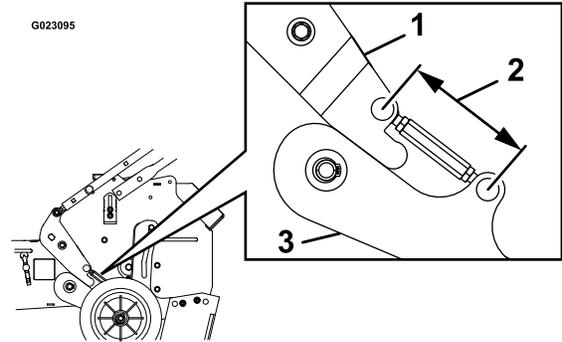

Figure 18
2. The wheel arm and the pivot shaft assembly should have surface-to-surface contact (Figure 18). If not, check the distance of the lower lift linkage and adjust if necessary.